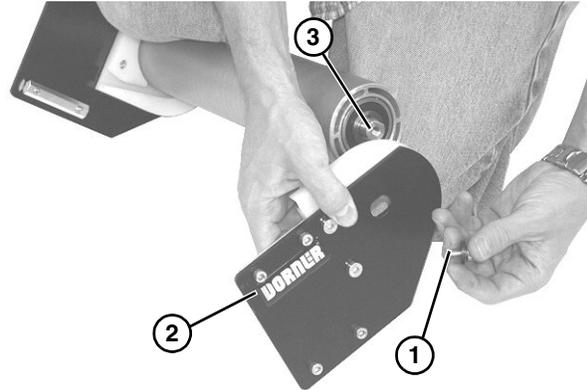

Figure 35
4. Remove socket head screw (Figure 35, item 1) from plate (Figure 35, item 2) and center of spindle shaft (Figure 35, item 3). Repeat procedure on opposite side.